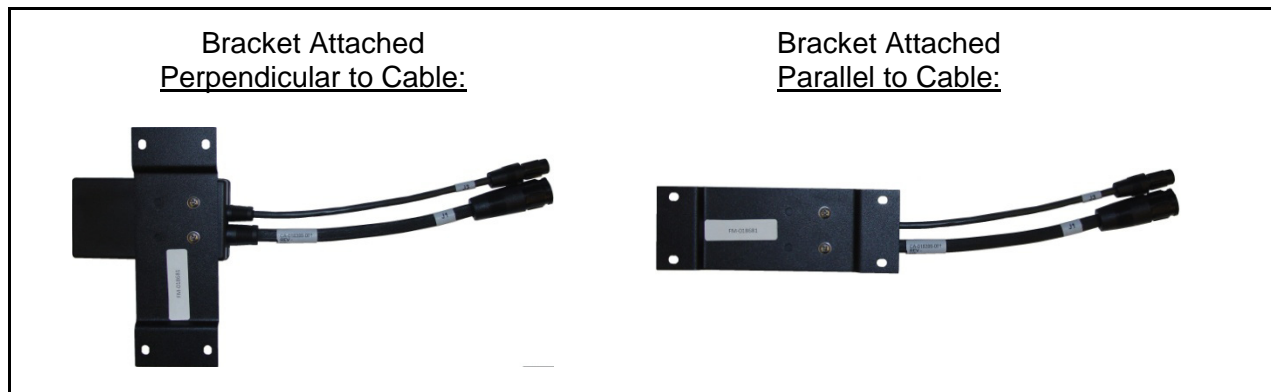

Figure 8-16: HHC-731 Interface Cable Mounting Bracket-to-Cable Positioning
1. Attach the bracket to the large end of the cable using the two #6-32 machine screws and flatwashers included in the bracket kit. As illustrated in Figure 8-16, the two can be attached either perpendicular